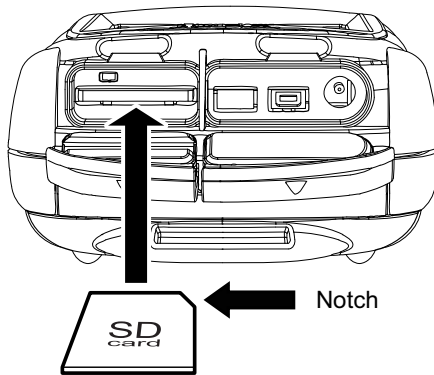

Figure 2-10. Insert SD Card
2. Gently insert an SD/SDHC card into the slot as shown in Figure 2-10.